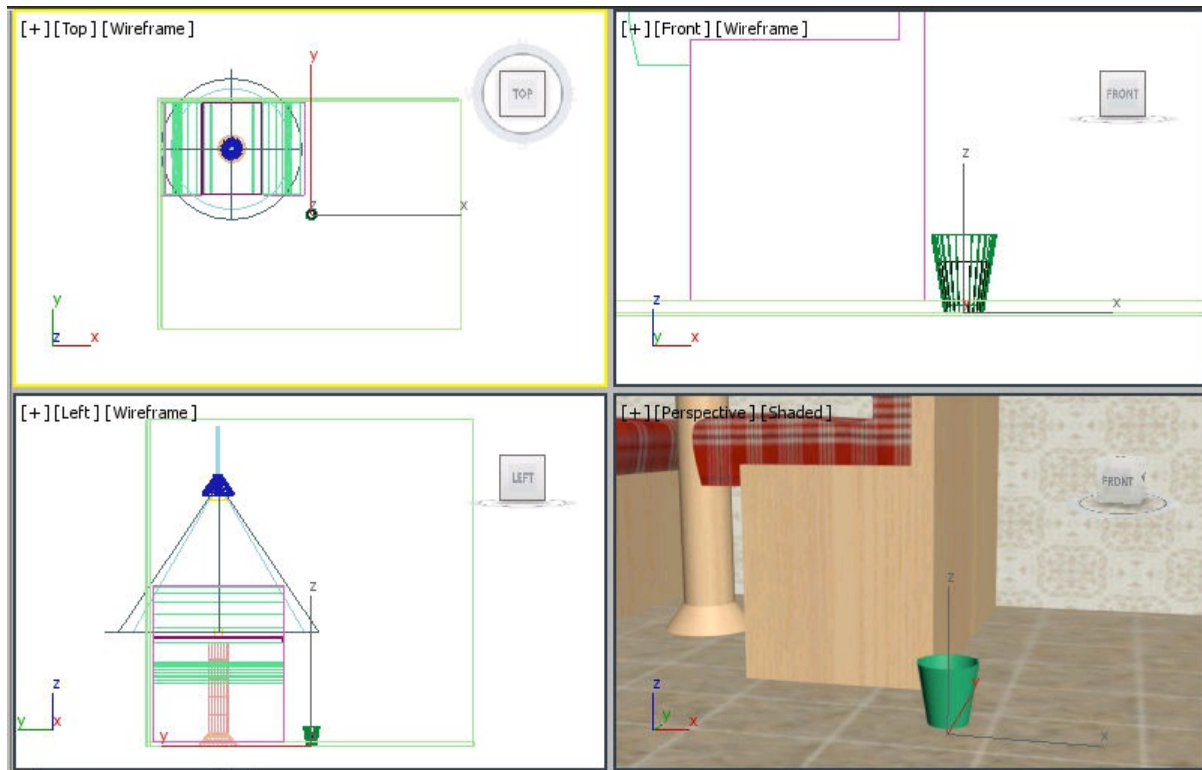

Figure P1-16 *A glass with water created*
11. Choose the **Create** button; the water level effect is created in *Glass01*, as shown in Figure P1-16. Next, enter the name **Water** in the **Name and Color** rollout and right-click on the viewport to exit the tool.